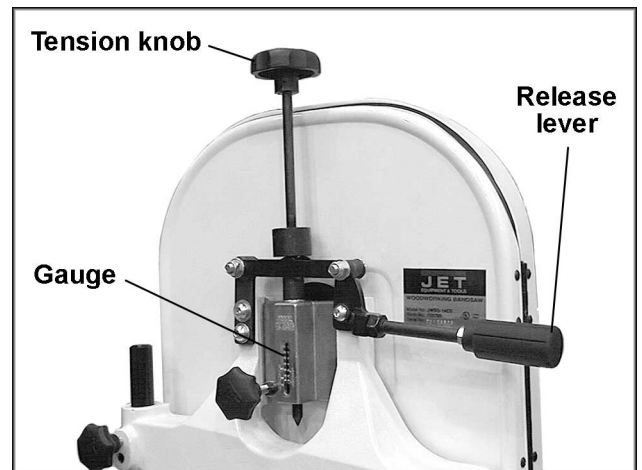

Fig. 16
2. Loosen blade tension by pushing up on the release lever (Fig. 16).
2. Turn blade tension knob (Fig. 16) clockwise to tension blade. A gauge on the upper wheel slide bracket indicates the approximate tension according to the width of the blade. Initially, set the blade tension to correspond to blade width.